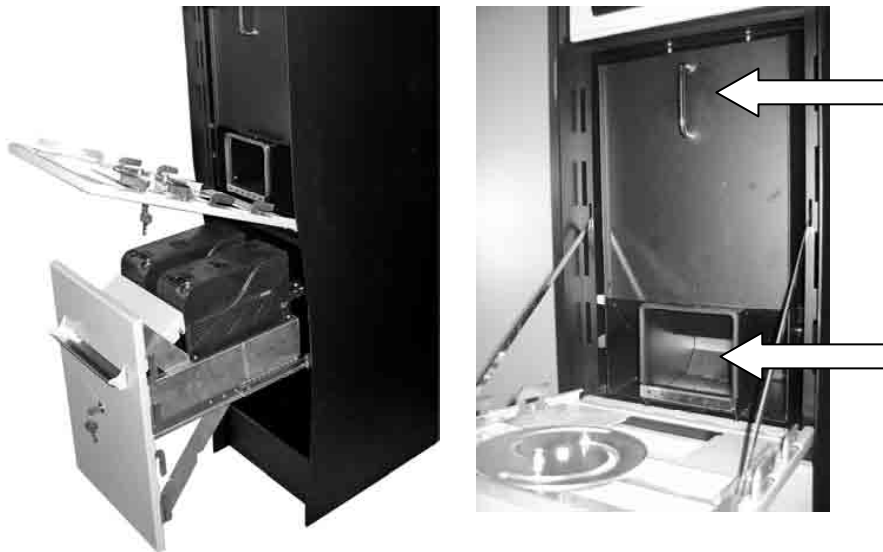

Fig. 10
The hoppers (9) and the money box (8) are situated in the central compartment of the change machine protected by a security lock. In order to access the money box it is necessary to open the cabinet door 180°. To extract the money box, remove it from its lateral supports which fasten it to the cabinet, using the chrome handle and the inset grip on the top of the dispensing tray (Fig.10).